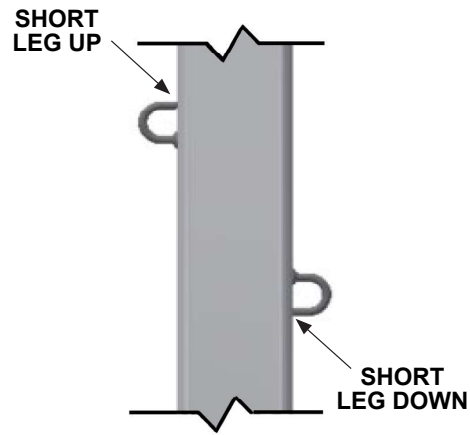
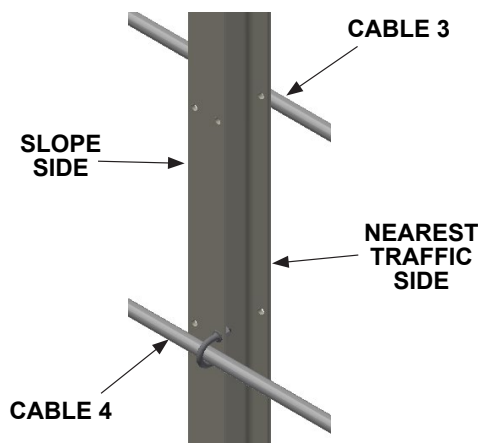

Figure 13
Figure 19
Assemble the top two (2) bolts with short leg up and the bottom two (2) with the short leg down. See Figure 13.
2. Assemble the cables to the post using 5/16" Hook Bolt (PN: 004225G) and 5/6" nut (PN: 003245G). Assemble the hook bolts with the short leg down. (See Figure 13)
3. Place Cable 4 (bottom) cable on the embankment (slope) side of the post. On the nearest traffic side of the post, place Cable 3. See Figure 19. The cables are attached to the post with a cable hook bolt (PN: 004225G). Cable 4 is attached to the post using the bottom hole in the post and Cable 3 is attached using the top hole. The cable hook bolt is placed around the cable with the short leg down. See Figure 13. Secure the bolt to the post with a hex nut (PN: 003245G) and tighten until snug with a minimum of two threads beyond the nut.